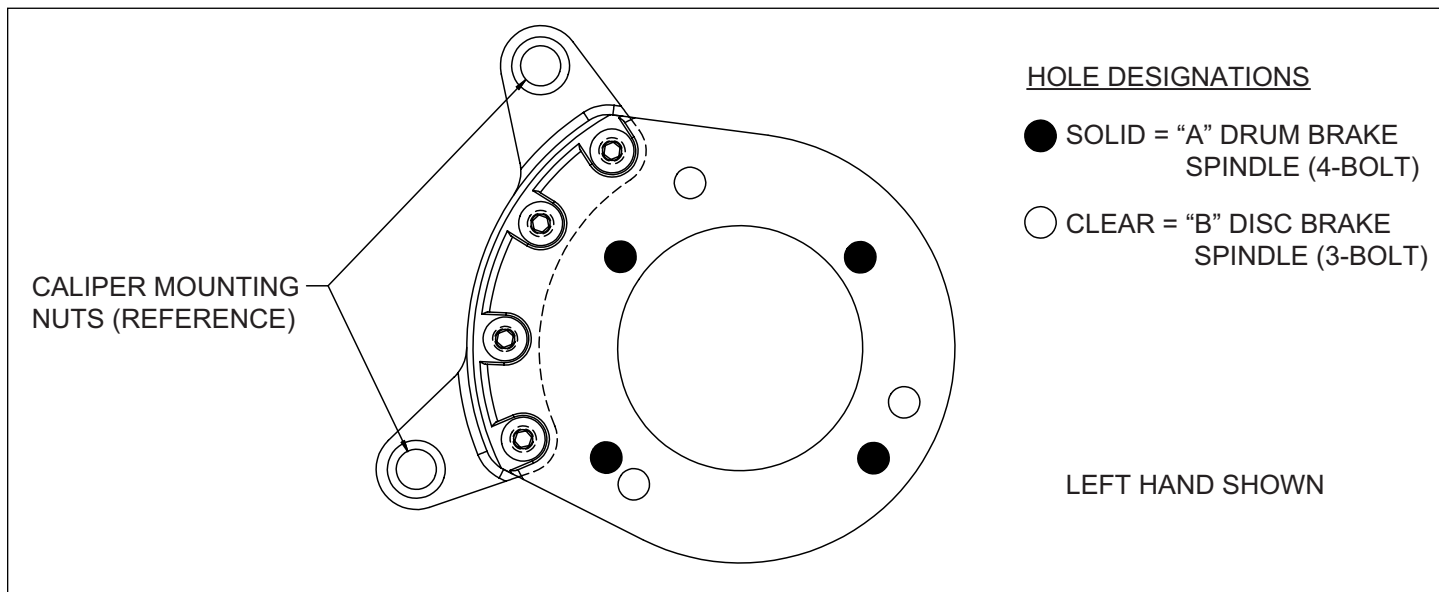
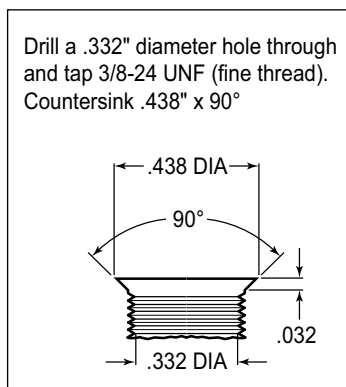
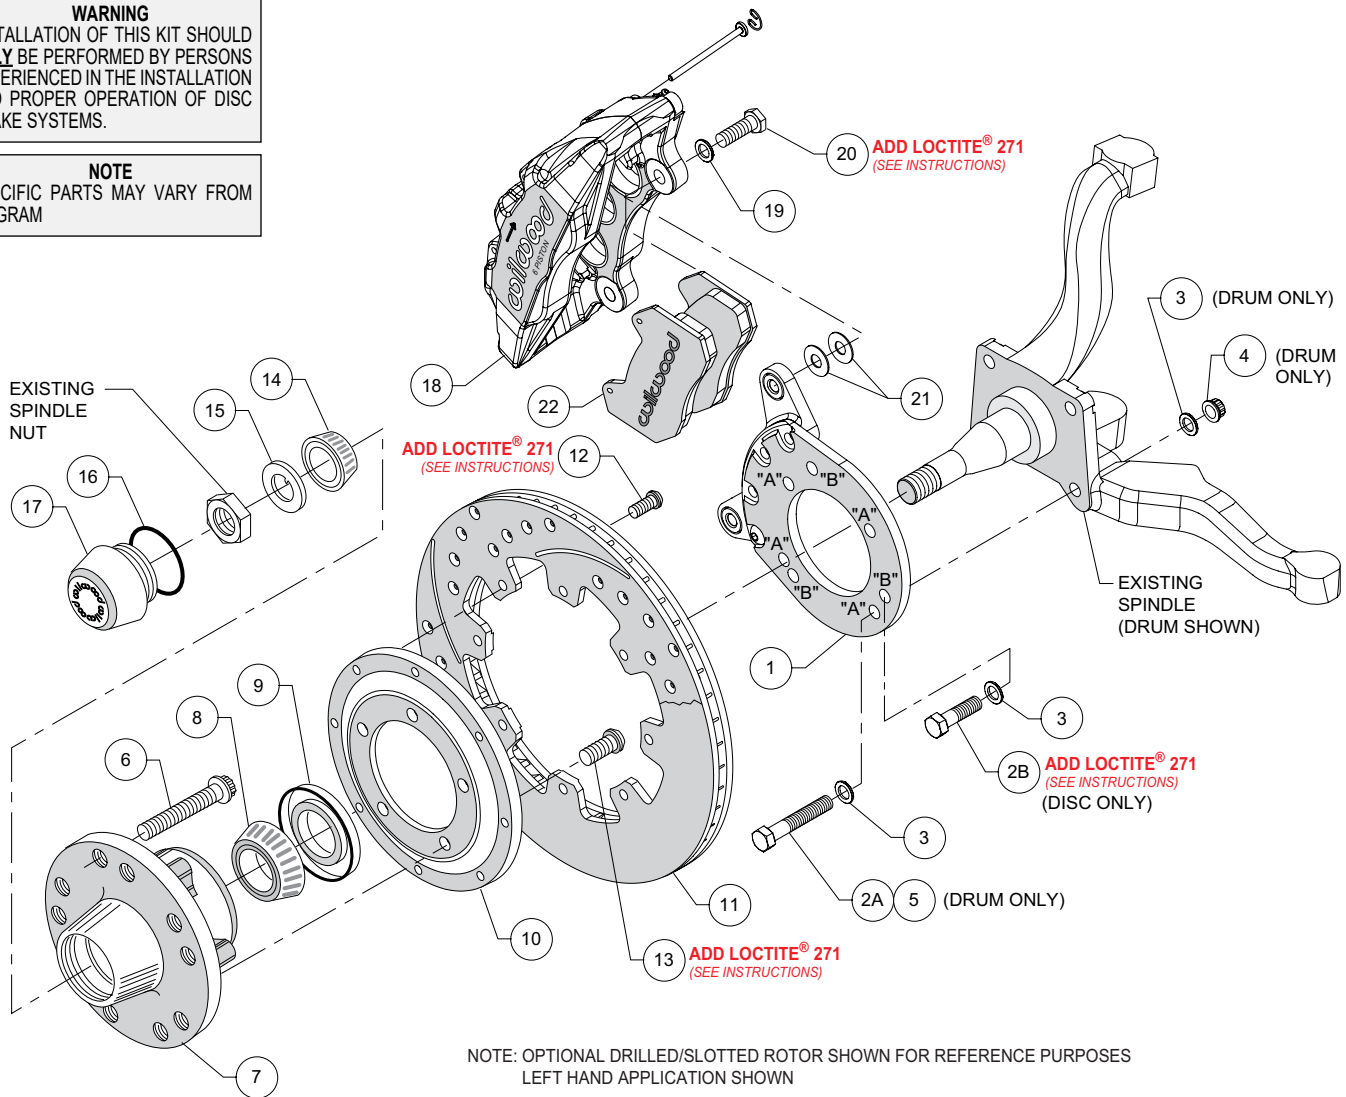

Figure 1. Wilwood Caliper Mounting Bracket
Figure 2. Drill and Tap Detail
Figure 4. Typical Installation Configuration
This kit has been designed for use with both the disc brake or the drum brake configuration of vehicle. The only difference is in how the Wilwood caliper mounting bracket is installed. The same bracket is used for both configurations; the disc brake version utilizes three mounting holes while the drum brake application uses four mounting holes (see Figure 1). For your convenience we have supplied bolt kits for both applications (see parts list and Figure 4 as necessary). Use the bolt kit that is applicable to your vehicle and disregard the other one.
NOTE: This modification should be performed by a qualified machinist and completed before assembly of the Wilwood disc brake kit begins. Using the caliper mounting bracket as a template (refer to Figure 1 as necessary), locate and verify the three original holes on the spindle that need to be modified. Drill a .332" diameter hole through all three holes, then tap 3/8-24 UNF (fine thread). Countersink the holes to .438" diameter x 90°, as shown in Figure 2.
NOTE: Numbers in parenthesis refer to the parts list on the preceding page and Figure 4.
•**NOTE:** This kit uses the same mounting bracket (1) for both the drum and disc brake spindles. The drum version, Photo 1, uses four mounting bolts (designated "A"), while the disc version, Photo 2, uses three (designated "B"). Refer to Figures 1 and 4 for the basic installation position of the bracket and the "A" and "B" reference designations (not physically marked on the brackets).
For Drum Spindle: Align bracket, using the four "A" holes, to the face of the spindle and attach using bolts (2A and 5), washers (3), and lock nuts (4), as shown in Figure 4. Ensure that the flanged heads of the clinch nuts in the bracket are facing outboard, Photo 1. Torque nuts to 30 ft-lb.
For Disc Spindle: Align bracket, using the three “B” holes, to the face of the spindle and attach using bolts (2B) and washers (3), as shown in Figure 4. Finger tighten. Ensure that the flanged heads of the clinch nuts in the bracket are facing outboard, photo 2. Remove bolts one at a time, apply red *Loctite*® 271 to threads, and torque to 40 ft-lb.
- Install wheel studs (6) into the hub (7), Photo 3. Torque to 77 ft-lb.
- Pack the large inner bearing cone (8) with high temperature disc brake bearing grease (available from your local auto parts store) and install into the backside of the hub (7), Photo 4.
- Install the grease seal (9) by pressing into the backside of the hub (7), flush with the end of the hub, Photo 4.
- Orient the rotor (11) and the rotor adapter (10) as shown in Figure 4 and Photo 5. Attach the rotor to the adapter using bolts (12). Using an alternating sequence, apply red *Loctite*® 271 to the threads, and torque to 25 ft-lb.
- Mount the adapter/rotor assembly (10/11) to the hub (7) using bolts (13), as shown in Figure 4 and Photo 6. Using an alternating sequence, apply red *Loctite*® 271 to the threads, and torque to 45 ft-lb.
- Pack the small outer bearing cone (14) with high temperature disc brake bearing grease and install into hub (7). Slide the hub/rotor assembly onto the spindle. Secure using spindle washer (15) and OEM spindle nut, Photo 7. Adjust bearings per OEM specifications. Install saved OEM nut lock (if any) and a new cotter pin (not included).
- Screw dust cap (17) into hub (7), Photo 8. Friction created by the o-ring (16) on the dust cap keeps it from unscrewing. **NOTE:** *The O.D. of the existing OEM spindle washer may be larger than the I.D. of the dust cap not allowing it to seat against the hub face. Therefore, use the spindle washer (15) supplied with the kit instead of the OEM washer.*
- NOTE:** *Please reference the caution statement at the beginning of the assembly instructions. This kit contains distinct right and left hand calipers that must be mounted in a specific direction, as described below.* Mount the caliper (18) onto the caliper mounting bracket (1) using bolts (20) and washers (19), as shown in Figure 4. Initially place two .035" thick shims (21) on each bolt between the caliper and the bracket, Photo 9. Ensure that the caliper is mounted so the largest pistons are at the rotor exit end of the caliper, in relation to the direction of rotor rotation. Temporarily tighten the mounting bolts and view the rotor (11) through the top opening of the caliper. The rotor should be centered in the caliper, Photo 10. If not, adjust by adding or subtracting shims between the bracket and the caliper. Always use the same amount of shims on each of the two mounting bolts. **NOTE:** *The end of each bolt must be flush with or slightly protruding from the head of the*
- Remove the two pad retaining pins from the caliper (18) by carefully popping out the pin retaining clips and sliding out the pins. Insert the brake pads (22) into the caliper from the bottom, Figure 4 and Photo 11, with the friction material facing the rotor. Secure the brake pads in place with the pad retaining pins and clips, Photo 12. Reinstall the caliper onto the caliper mounting bracket. Apply red *Loctite*® 271 to bolt threads (20), and torque to 40 ft-lb.